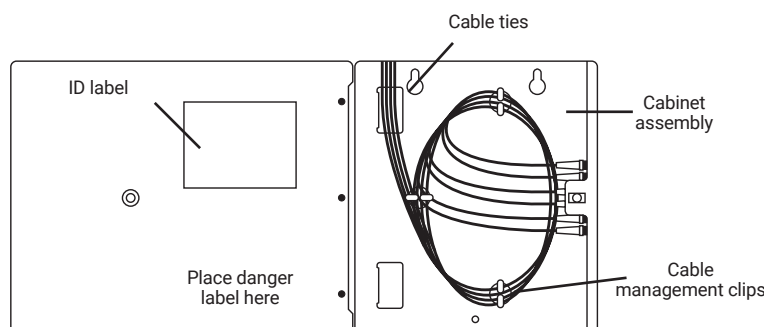

FIGURE 4-1. SECURING THE CABLE TIE BRACKETS
5. Secure the cable tie bracket as illustrated in Figure 4-1.